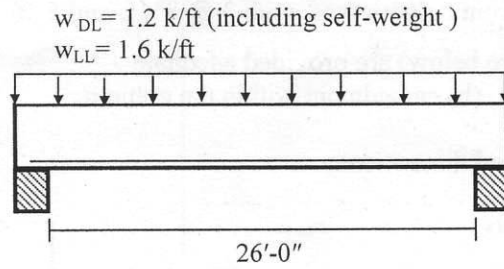

Fig.6
10. Using WSD method, determine the shear reinforcement and stirrup layout for the beam shown in Fig. 6 and 7.